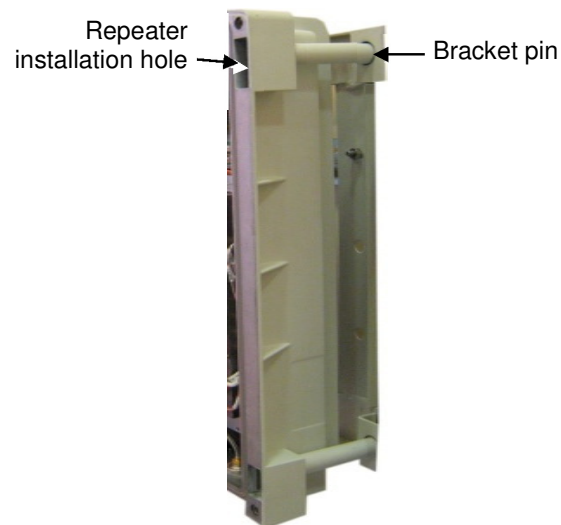

Figure 3-5. D-MBR 3007-3008-PS-NFPA Mounted on Support Bracket
2. Slide the brackets pins through the Repeater holes until the upper side is locked with the installation head nuts at the top of the bracket. See Figure 3-5.